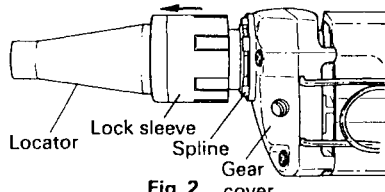

Fig. 2
7. Adjusting the tightening depth: (Fig. 2)